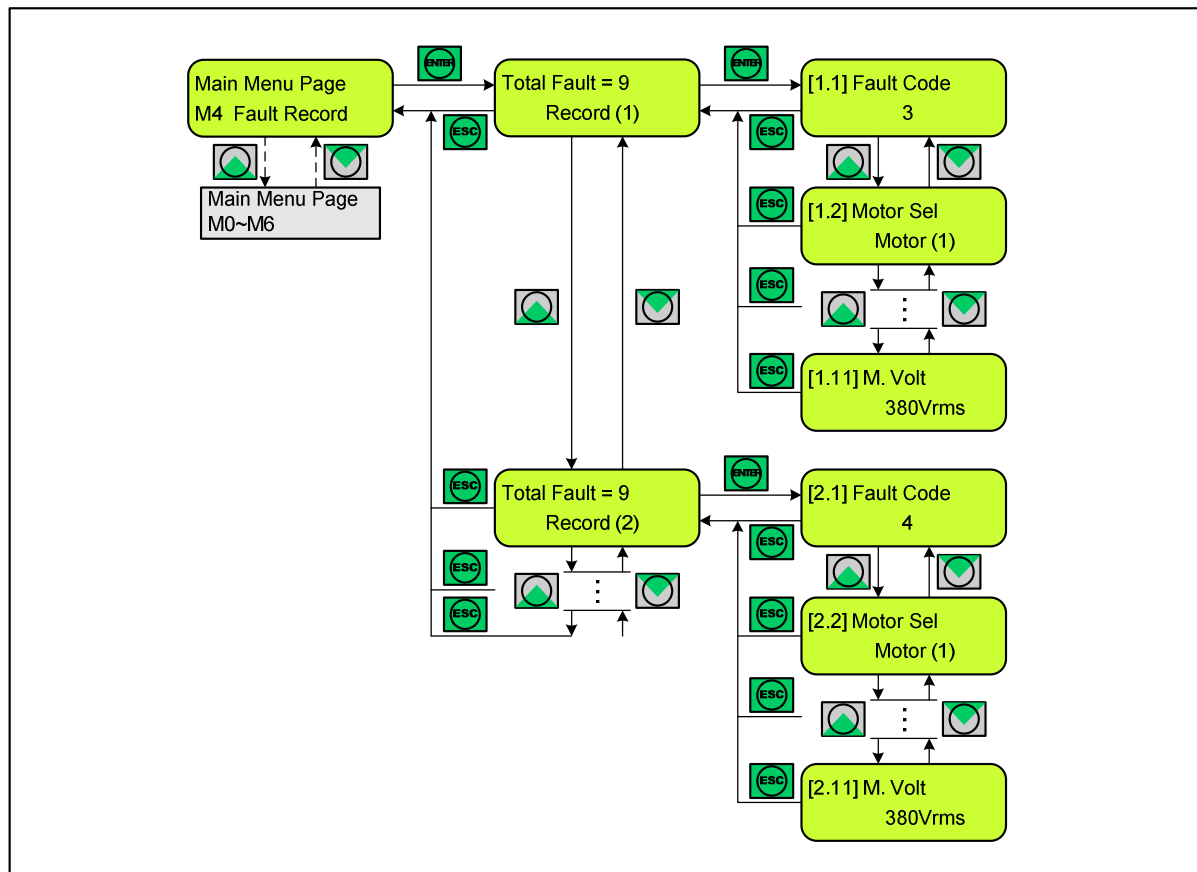

Figure 6.2-6 "M4 Fault Record" Menu Page
In M4 Fault record page, users can monitor the number of Faults, Fault code and operation status when it occurs. Total 9 Faults are saved from Record (1) to the last occurred Fault. If Faults are occurred more than 9, the oldest Fault record is erased. Refer to Figure 6.2-6 for KEYPAD usage and the setting instruction.